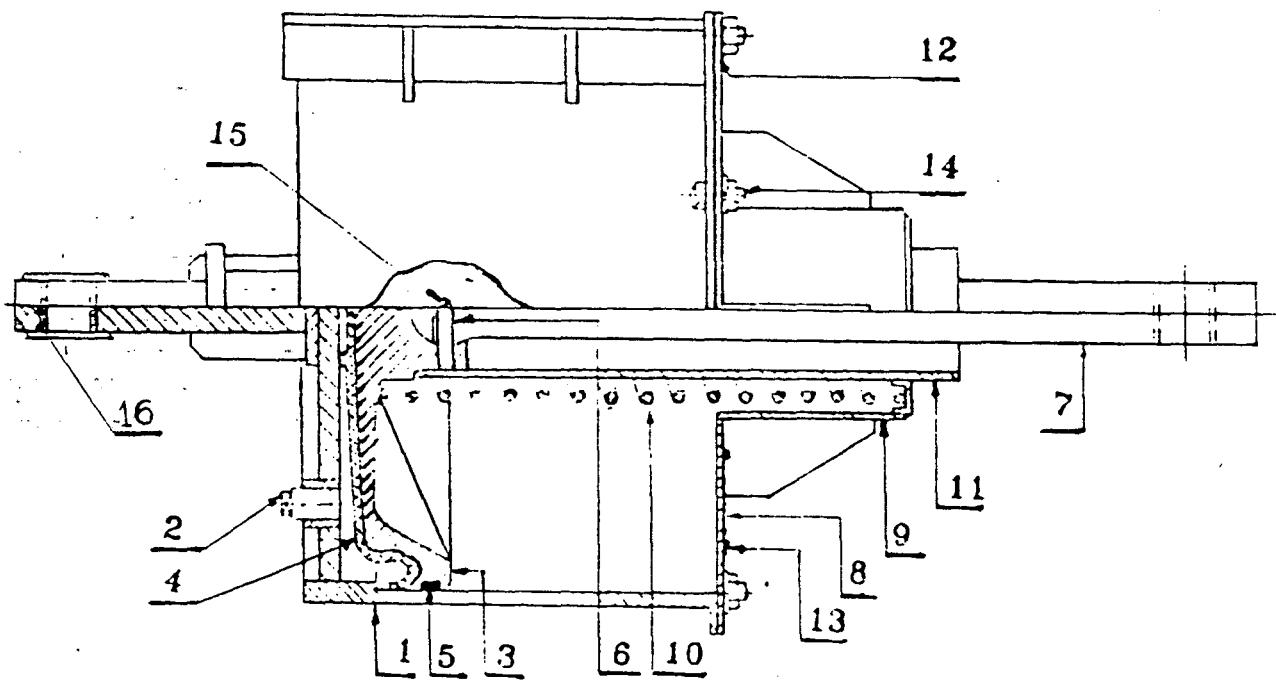

FIG.13
The brake cylinder receives pneumatic pressure from auxiliary reservoir after being regulated by the distributor valve and develops mechanical brake power by outward movement of its piston assembly. The push rod of the piston assembly is connected to the brake shoes through a system of levers to amplify and transmit the brake power. The compression spring provided in the brake cylinder brings back the rigging to its original position when brake is released. General arrangement of brake cylinder is shown in Fig. 13. The cylinder body is made out of sheet metal or cast iron. The cover (9) is bolted to the cylinder body (1) by Tee head bolts and nuts (12 & 14) The piston (3) made out of cast iron has a round groove in which packing (4) is seated. The piston packing is made of oil and abrasion resistance rubber material. The piston (3) also carries a wear ring (5) which prevents the friction between cylinder body (1) and the piston head (3).